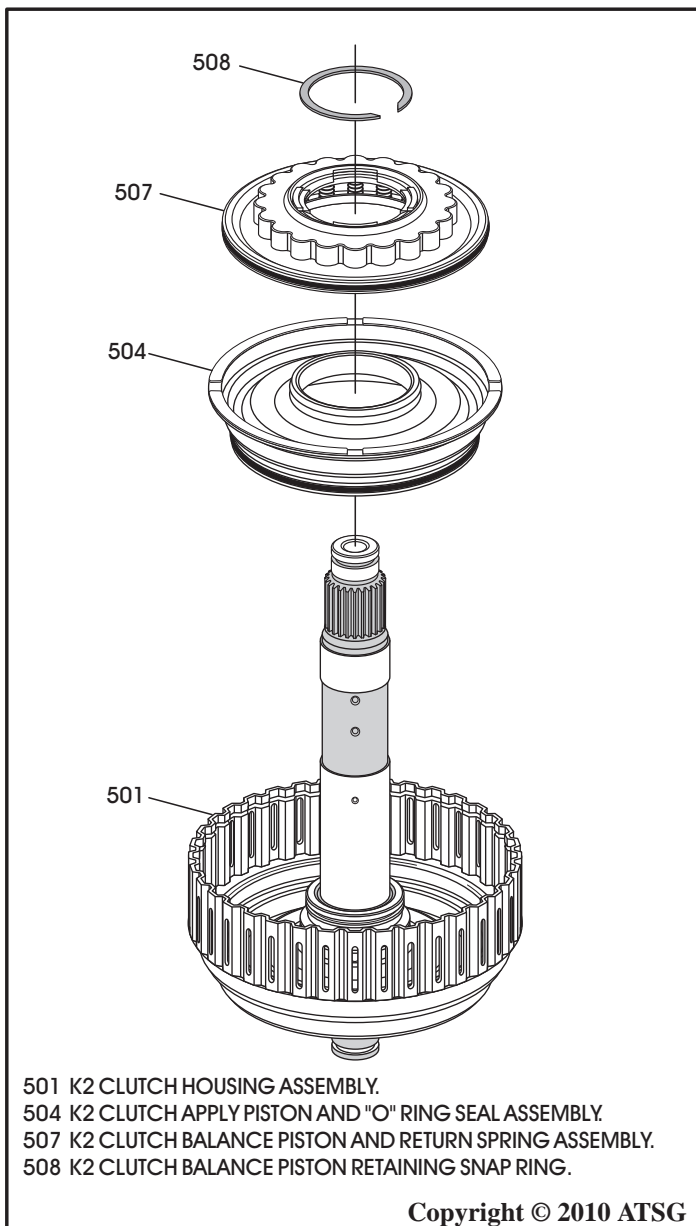

Figure 93
9. Install the K2 clutch apply piston in K2 clutch housing, as shown in Figure 93.
10. Install the K2 balance piston and return spring assembly on top of the apply piston, as shown in Figure 93.
11. Compress balance piston and install snap ring, as shown in Figure 93.